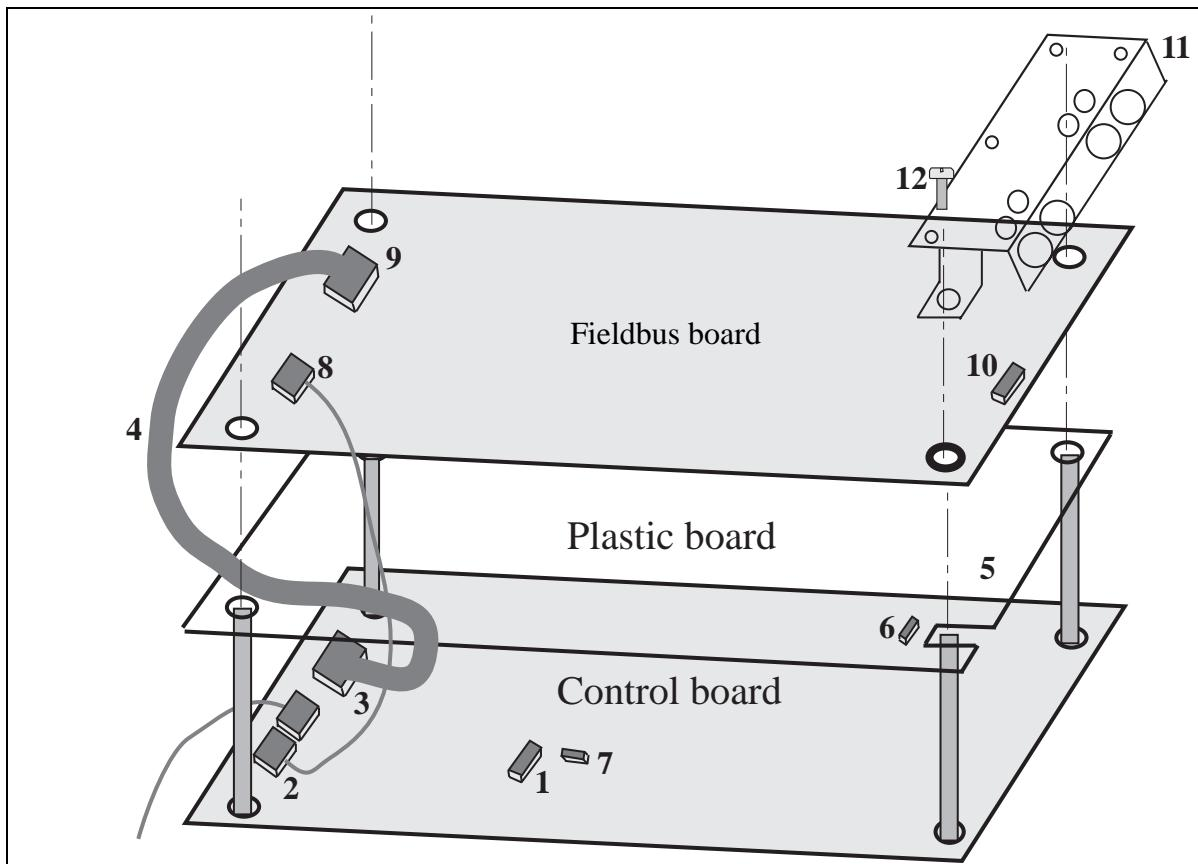

Figure 4-1. Fieldbus board installed into the control board
Before starting the installation, carefully read the safety instructions in the " SV9000 Drive User's Manual" chapter "SAFETY". Check that you have received all the Fieldbus board parts: Fieldbus board, plastic board, power cable (black terminal), data cable (blue terminal) and grounding screw. The fieldbus board can be placed in the existing place for an option board inside the drive (see figure 4-1).
H	If the packet includes the cable cover (11), install it into position as shown in figure 4-1.